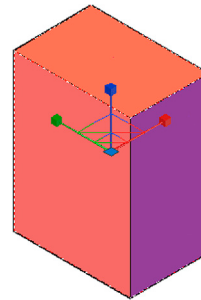

FIGURE 22.18 3Dscale gizmo.
Step 3. You also see a scaling gizmo appear, which snaps to whatever base point you select (Fig. 22.18).